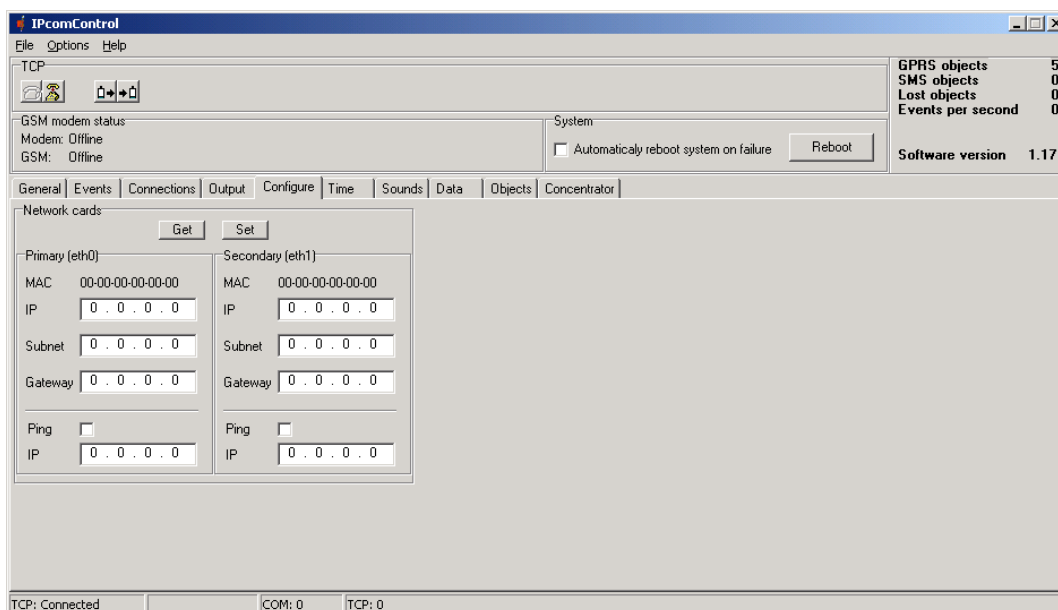

Figure 15.
8.13 In the **Configure** tab (Fig. 15) Receiver’s RM10 Internet addresses can be entered.